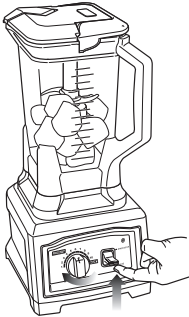

Fig. 6
- 10 Turn the Variable Speed Dial to speed 1. (Fig. 6) The power indicator light (⏻) will now turn on.